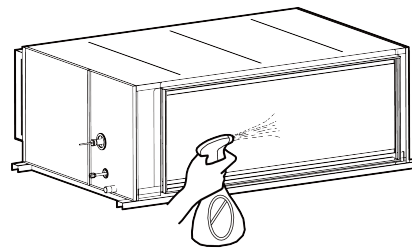

Fig.4.3.11
2) Spray 1L water on evaporator with sprayer, as shown in Fig.4.3.11.